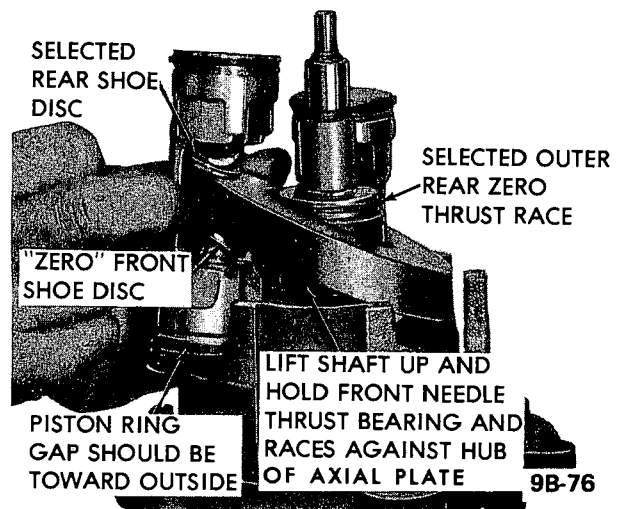

Figure 9B-103 Installing Piston Assembly in Front Cylinder Half - 6 Cylinder Compressor
3. Rotate shaft and axial plate assembly until high point of swash plate is over No. "1" cylinder bore. Position No. "1" piston onto axial plate (see Figure 9B-103) and lower the piston and axial plate so that the front end (notched end) of the piston enters the cylinder bore.